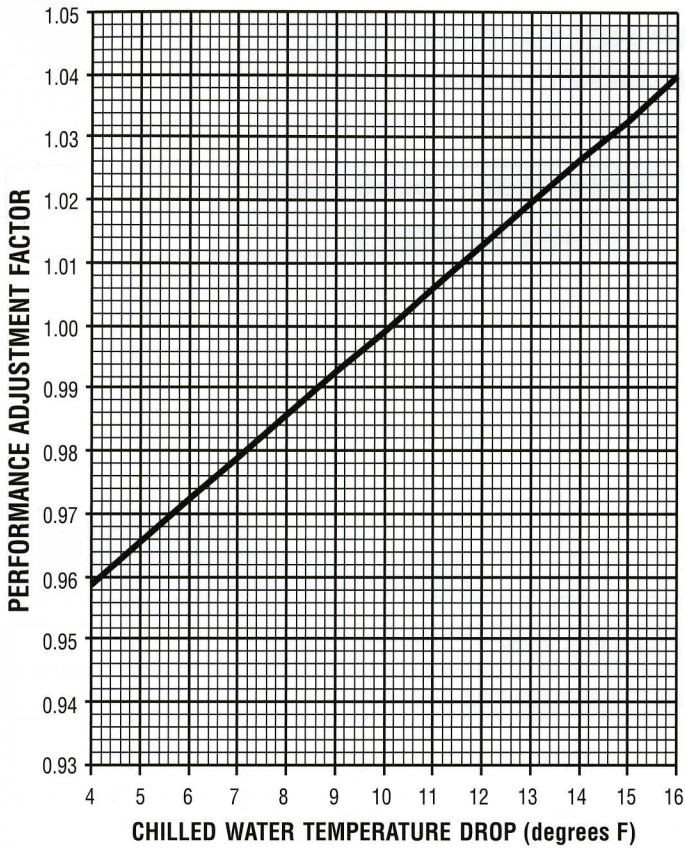

Figure 1. Performance Adjustment Factor
Capacity tables are based on a 10°F temperature drop through the evaporator. For other than 10°F temperature drop, apply the respective performance adjustment factors from **Figure 1**.
1. Use **Figure 1** adjustment factor to convert tons at 12°F to equivalent tons at 10°F for use with capacity tables. Tons = $55/1.012 = 54.3$ tons
Power input = $15.8 \times 4 = 63.2$ KW at 12°F temperature drop, applying **Figure 1** performance adjustment factor results in:
If a water temperature drop greater or less than 10°F is required, begin by first multiplying the capacity using the performance adjustment factor from **Figure 1**.